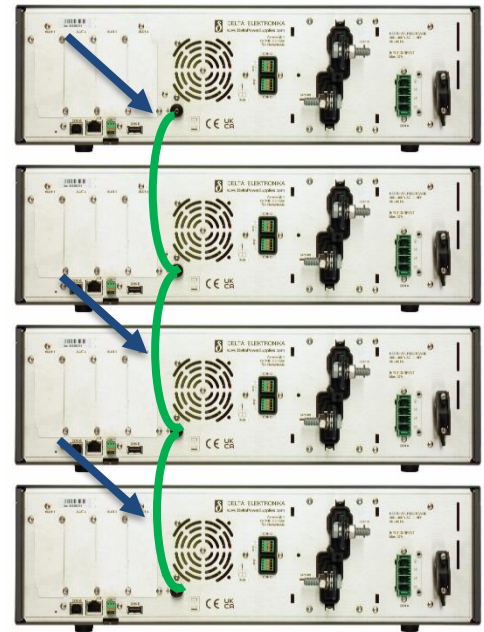

fig 4 - 3
- Then connect another cable from the "OUT" connector of the first slave to the "IN" connector of the next slave. Repeat this until all devices are connected (see fig 4 - 2).